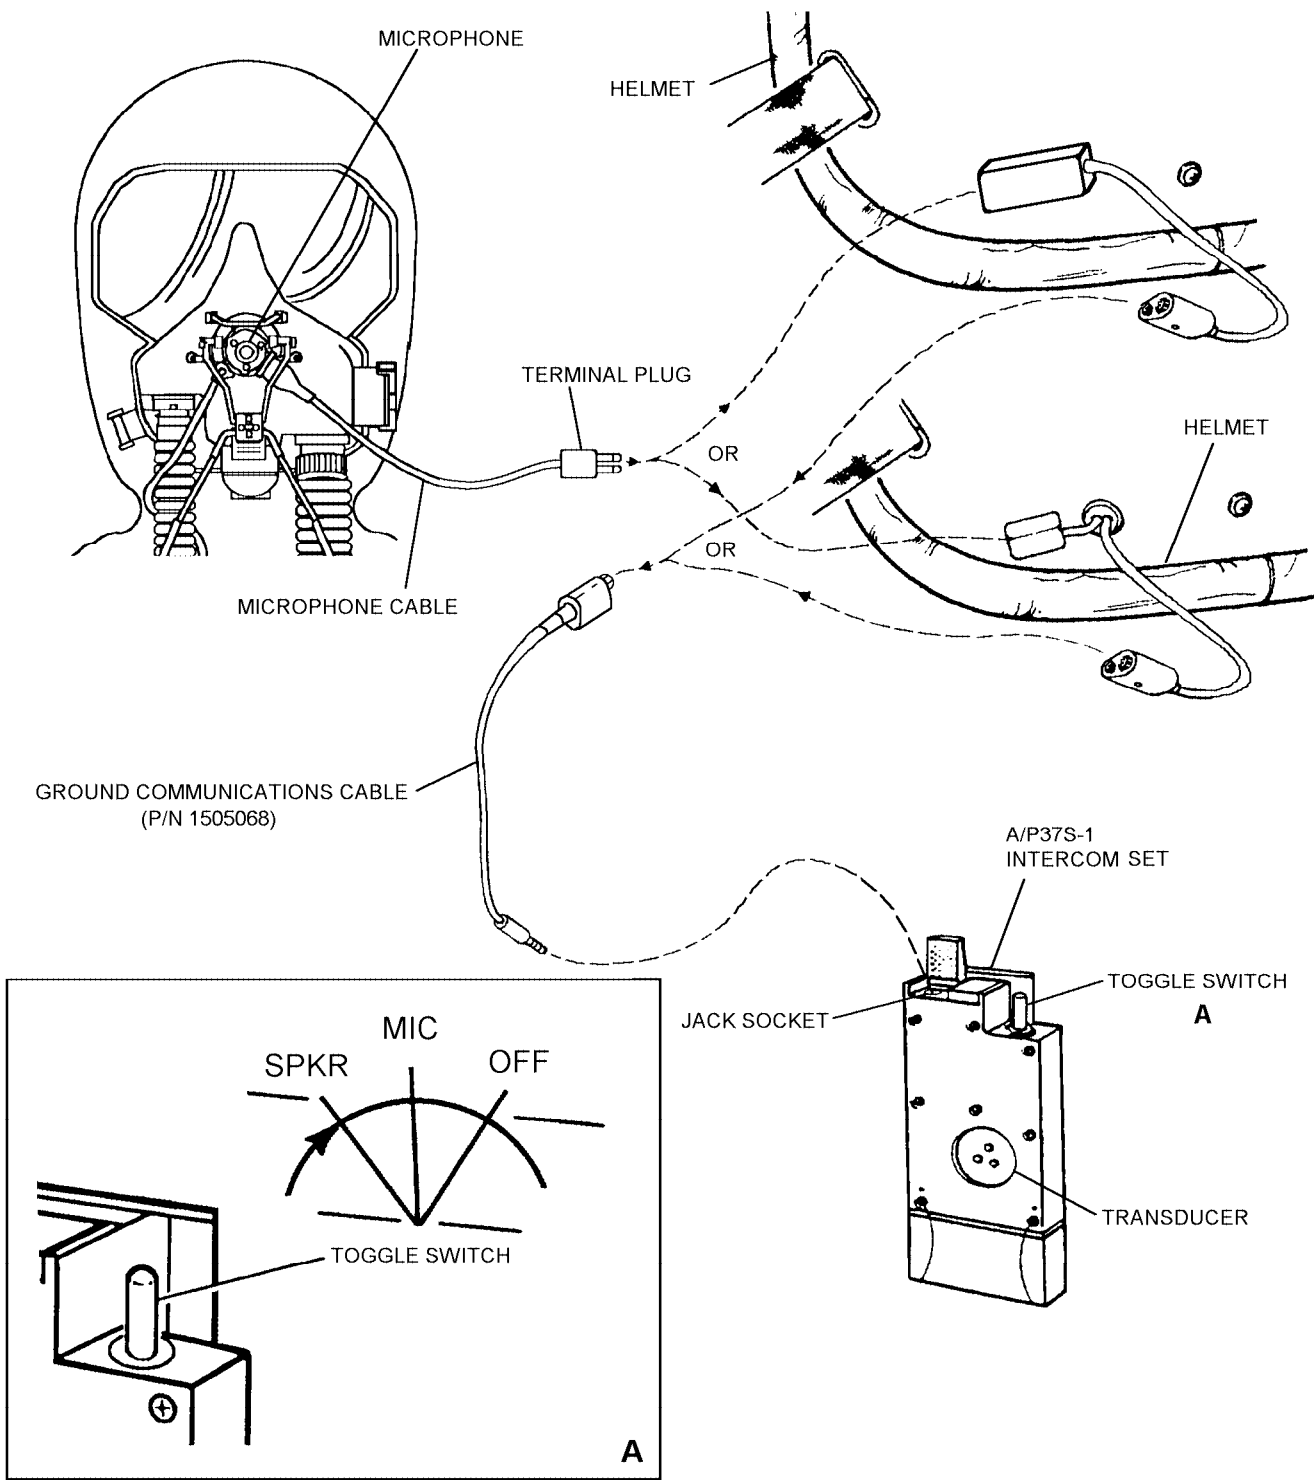

Figure 3-30. Communication System Interconnect
a. Connect intercom unit to mask microphone and aircrew helmet with the ground communications cord as indicated in table 3-1A and figure 3-30.